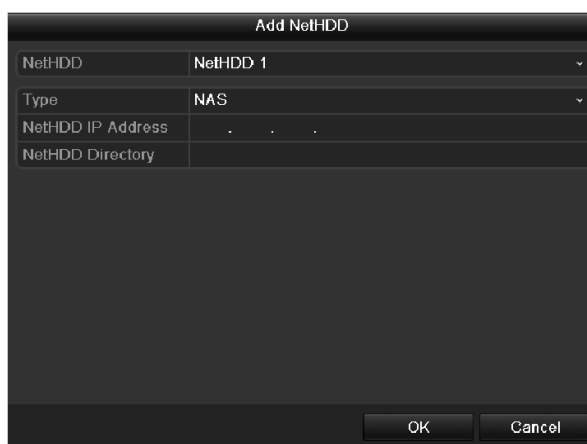

Figure 10. 5 HDD Information Interface
2. Click the **Add** button to enter the Add NetHDD interface, as shown in Figure 10. 5.